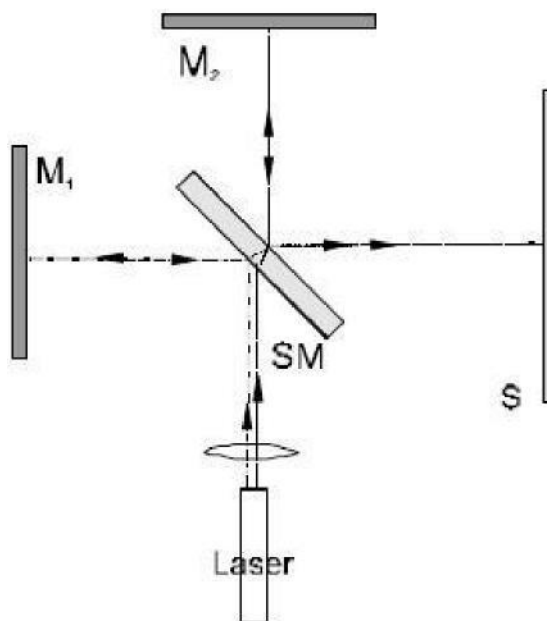

Fig. 2 Experimental set-up Michelson's interferometer. (M1, M2 = mirrors, SM = semitransparent mirror, S = ground screen)
- Position the laser half way along the longer side of the metal board (Fig. 2) and adjust the laser beam parallel to the ground plate (see Notes).
- Position the semi-transparent mirror between the laser and mirror M2 as shown in Figure 2. The angle between the semi-transparent mirror plane and the axis of the laser beam should be 45° . Correct positioning is vital.
- Position the ground screen as shown in Figure 2, on the shorter side of the board. The beam spot should appear in the centre of the screen.
By adjusting the set up according to Figure 2 it is very important that the interfering spherical waves are containing only a small angle (see Figure 3a), than we can observe the interference in the area I. If the spherical waves contain too big an angle (Figure 3b) the interference can not be observed. Therefore it is important to adjust the laser beam parallel to the ground plate and try to keep it parallel after reflection from mirrors M1 and M2.